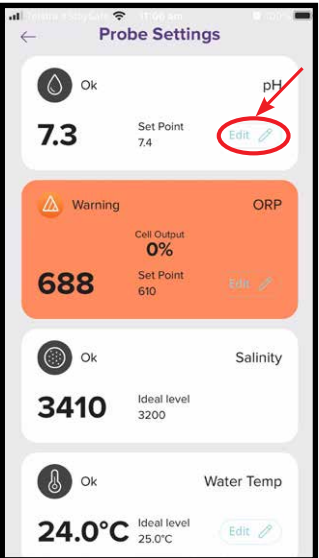

Figure 8.9
- In the probe setting menu, you’ll notice that the current pH set point. From the probe settings menu, press “edit” (refer figure 8.9)